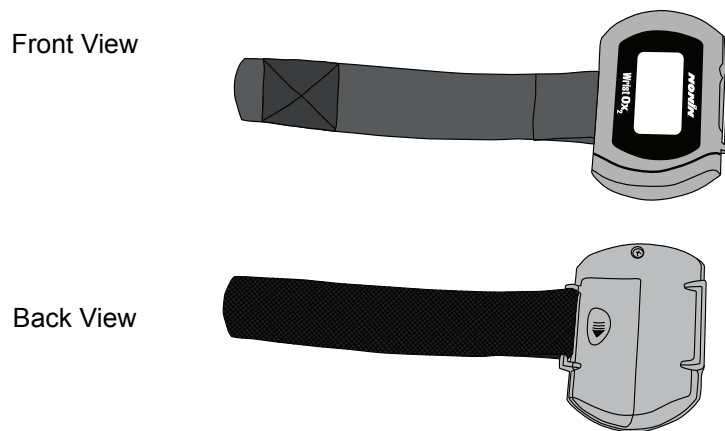

Figure 17: Verify Single Strap Attachment
1. Verify the adjustable strap has been attached to the device by the battery door (figure 17). If strap has not been attached, see “Attach Adjustable Strap to Device.”